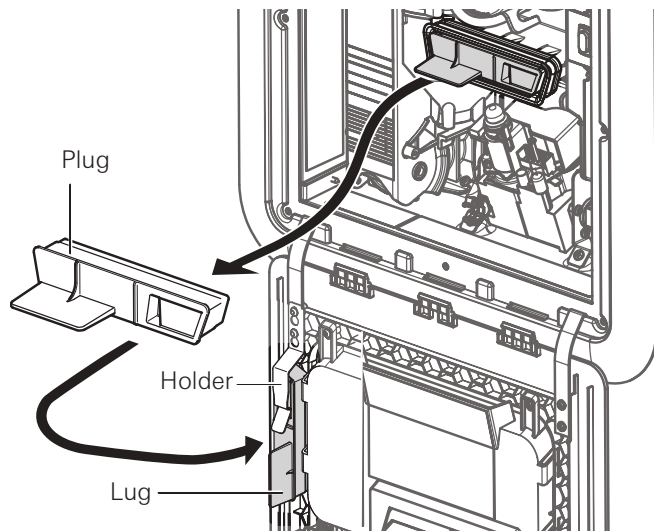

Fig. 9
Remove the plug from the flue duct and clamp it beneath the holder (see Figure 9).
3. Remove the plug from the flue duct and clamp it beneath the holder (see Figure 9).
5. Remove the plug from the flue duct and clamp it beneath the holder (see Figure 9).